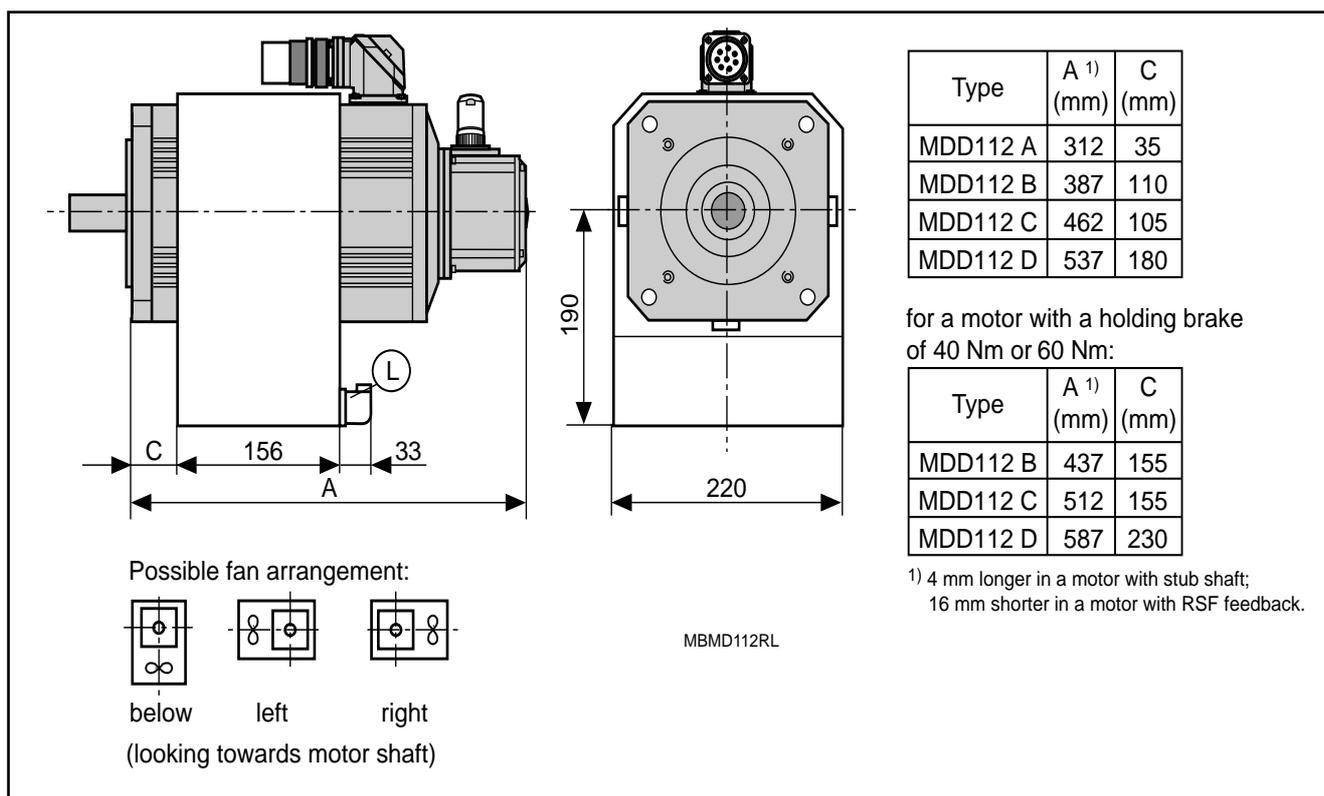

Figure 3.14: Dimensional data for an MDD112 with radial surface ventilation
4. Insert the bottom plate with fixing strip into the slot on side of the motor. Fix into position  $C + 13$  mm. (See Figure 3.14 or 3.15 for position C.)